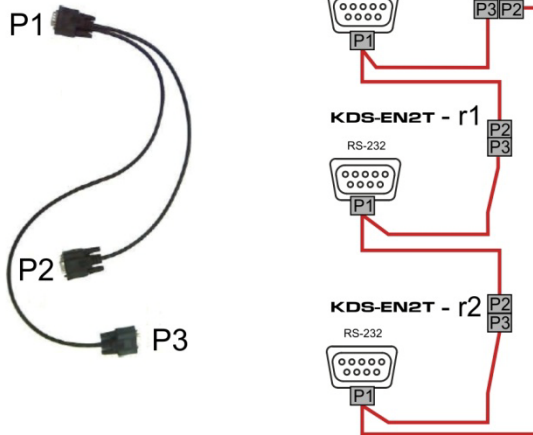

Figure 6: Connecting the RS-232 Y-cable
To simplify the video wall configuration process, the first host of the first row of the video wall is assigned to be the control portal. The control portal controls the other transmitters and receivers in the setup via the RS-232 closed loop chain (see Figure 6). The RS-232 chain lets transmitters communicate with each other even if they are not part of the same LAN.
5. Connect the 9-pin D-sub Y-cable to the three **KDS-EN2T** units, as illustrated in Figure 6.